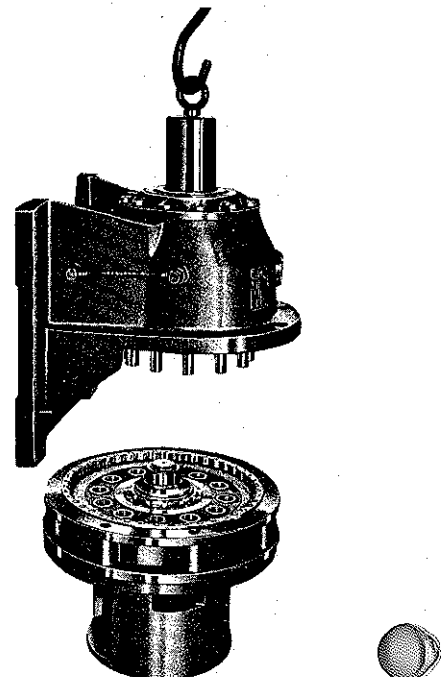

Fig. 7
- 5) To lift the slow speed side, attach an eyebolt to the tapped hole on the end of the slow speed shaft and use a hoist or chain block (Fig. 7).
- 9) Put the slow speed shaft pins into the rollers (Fig. 7).